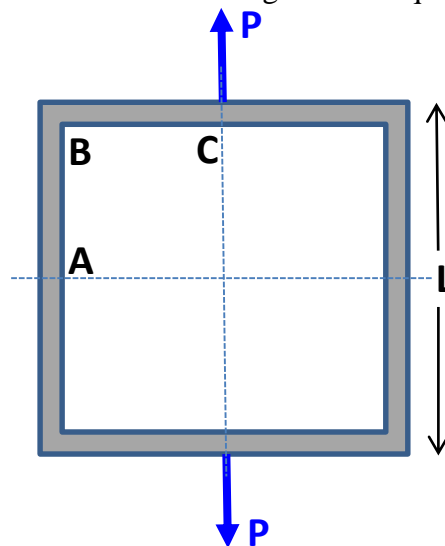

Figure 3
- (c) A statically indeterminate structure is in a form of a square steel member is subjected to symmetrical Point Loads,  $P$ , as shown in Figure 3. A quarter symmetry segment is indicated by the position of A-B-C. The length of the square edge is given as  $L$ .